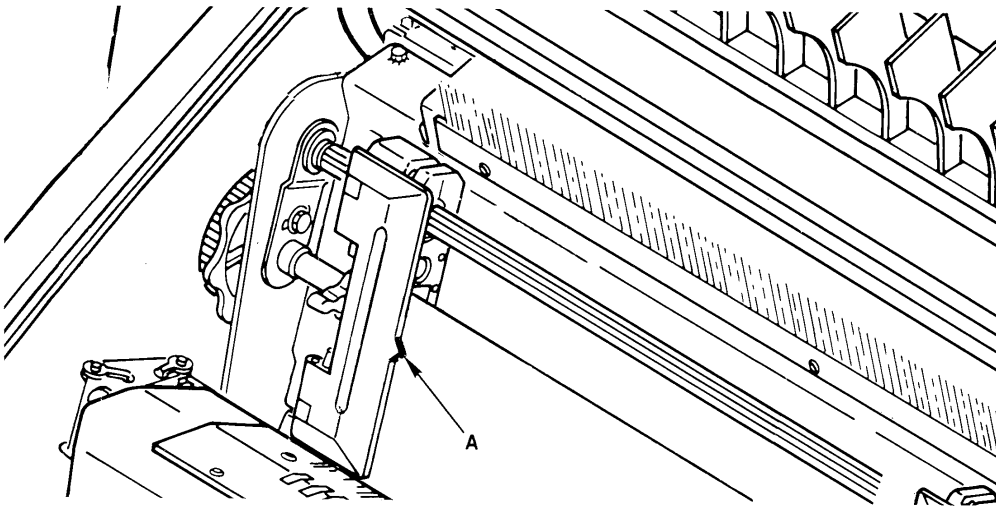

Figure 2-5. Setting Top-of-Form
3. Rotate the Vertical Position Knob (on the right side of the printer) to align the first print line with the top-of-form alignment notch on the left tractor gate (A, Figure 2-5).
3. Rotate the Vertical Position Knob (on the right side of the printer) to align the first print line with the top-of-form alignment indicator on the left tractor gate (Figure 2-5).